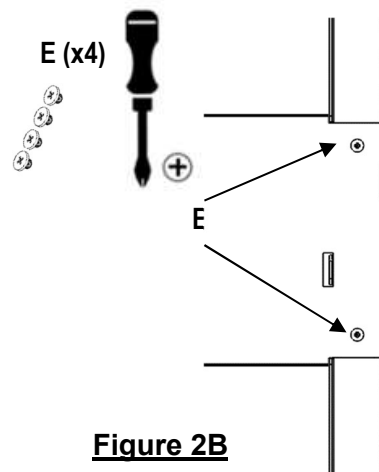

Figure 2B
- Use smooth headed screws (provided) to fasten center bracket to side hanger bracket, see Figure 2B.